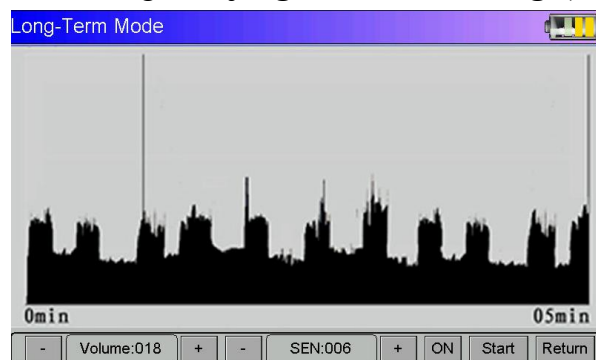
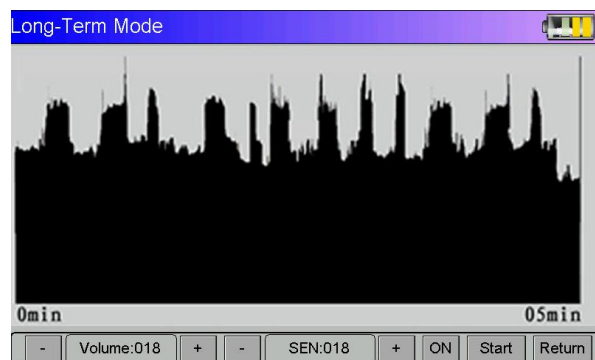

Figure 5
Figure 6
- Intermittent increase and decrease in water pipes and a larger amplitude: whether to raise or lower the sensitivity, the recess amplitude of increase and decrease is not big, **can judge where no leaking.** ( See Figure 5 , Figure 6 )